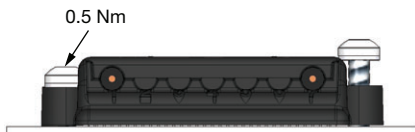

Fig. 10 - After First Screw Pre-Tightening
- **STEP 1:** apply a preliminary tightening torque of 0.5 Nm on one screw (e. g. the screw on the left has been tightened as described in Fig. 10).